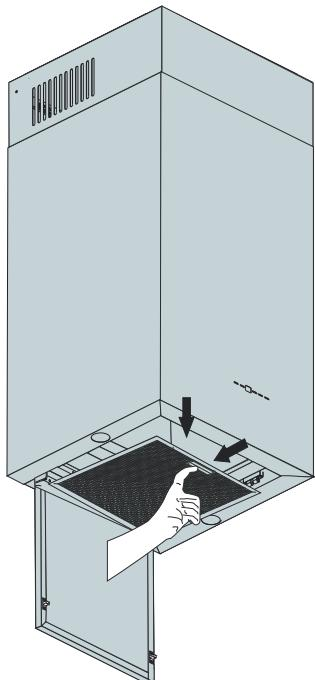

Fig. 12
1. To remove the side suction plate, hold from the top right and left points and pull down (Fig. 12).
Open the aluminium cartridge filter lock by pressing the tab and remove it from its socket (Fig. 12).